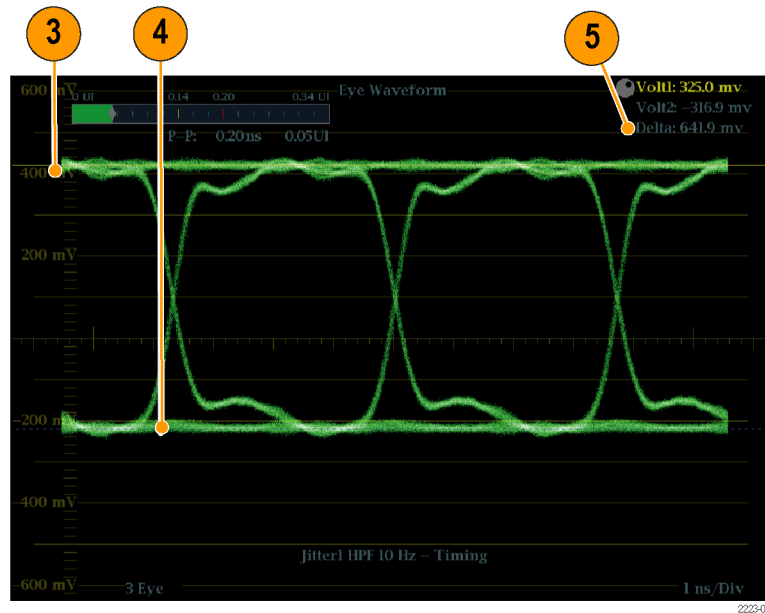

Figure 49: Eye measurement cursor placement
3. Position one voltage cursor at the top part of the waveform, ignoring any overshoot or undershoot on the rising or falling edges. (See Figure 49.)
4. Position one voltage cursor at the bottom part of the waveform, ignoring any overshoot or undershoot on the rising or falling edges. (See Figure 49.)
5. Note the amplitude of the eye waveform that is displayed in the Voltage Cursor readout. (See Figure 49.)